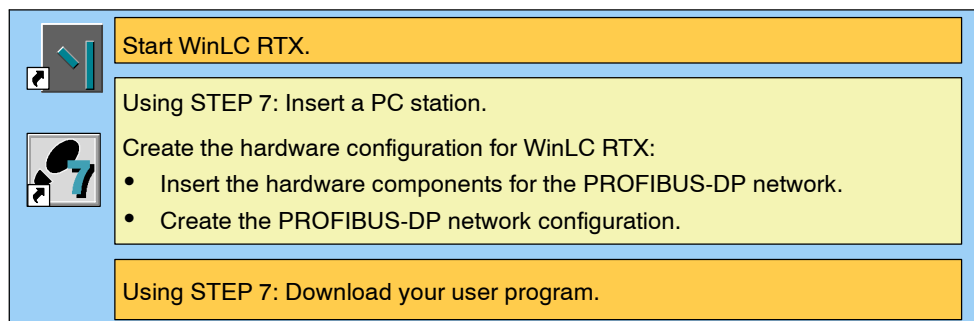

Figure 4-3 Using STEP 7 to Configure WinLC RTX
The hardware configuration defines the network addresses and the distributed I/O (DP) for the WinLC RTX controller. It also defines the default operating parameters, such as the minimum scan cycle time. As shown in Figure 4-3, you must use the STEP 7 programming software to configure WinLC RTX: